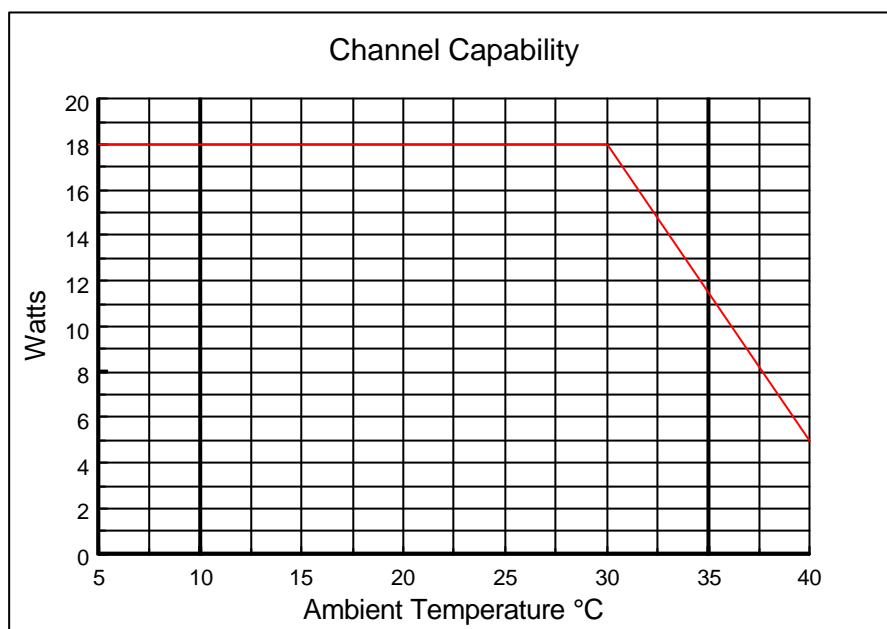

Figure 1 Channel Performance
2.1.2 Figure 1 shows the maximum cooling capability for each channel over the ambient temperature range.